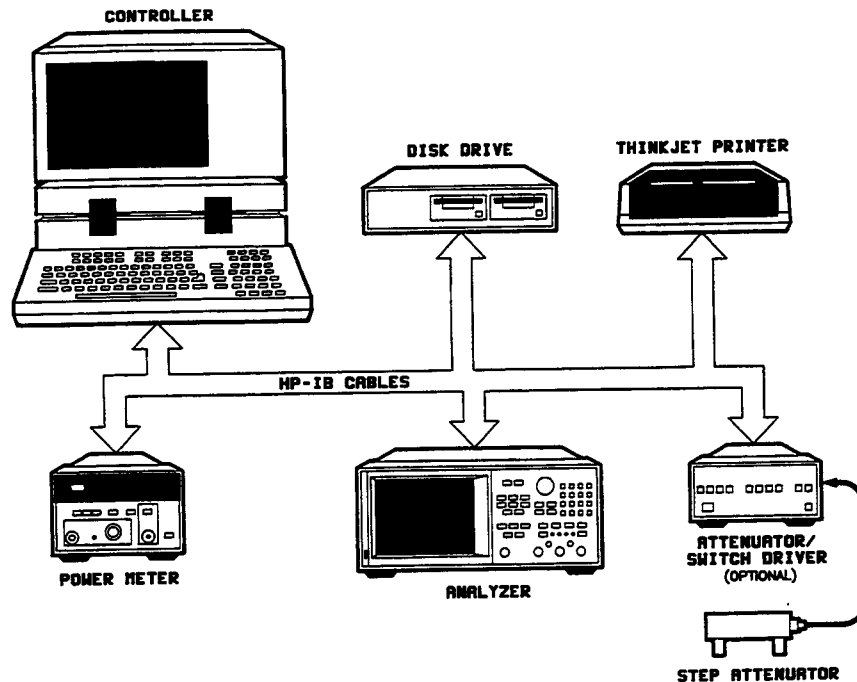

Figure 21. System Configuration for Dynamic Accuracy Tests
1. Set up equipment as shown in Figure 21. When using a manual attenuator, HP 8496A, eliminate the HP 11713A attenuator/switch driver. When using a programmable attenuator, HP 8496G, the HP 11713A is required. The program looks for the HP 11713A. If it is not on the HP-IB bus, the program assumes the use of a manual attenuator and will prompt the operator to change the attenuation step at the appropriate time.